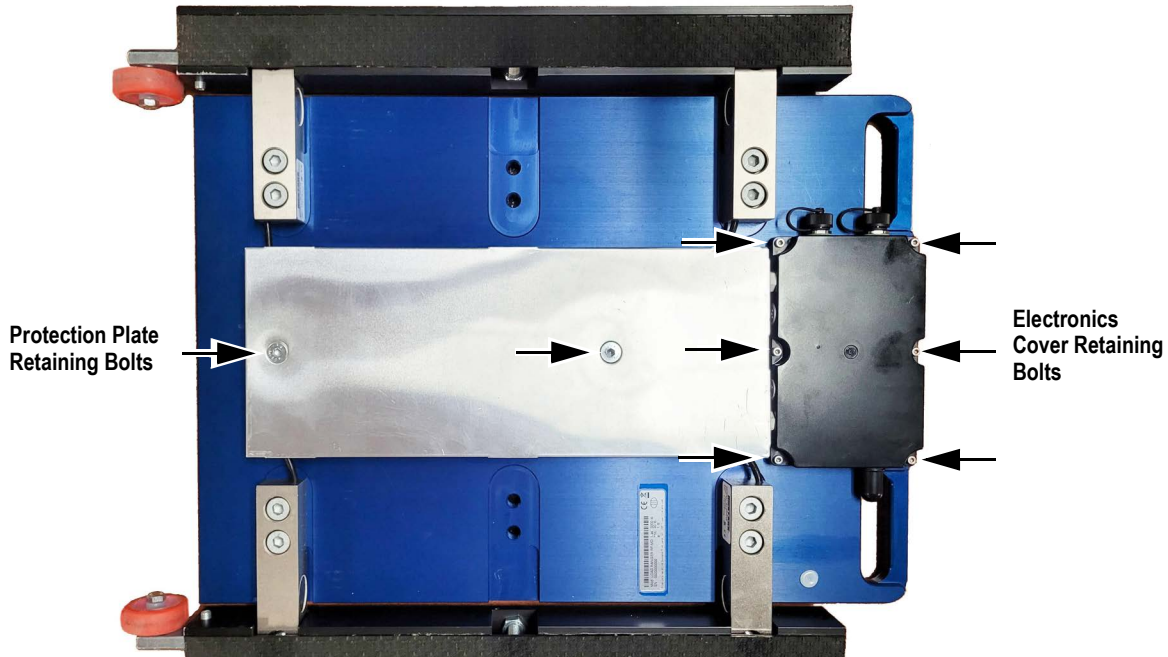

Figure 7-5. Protection Plate and Electronics Cover Retaining Bolts
18. Reinstall wheel weigh pad's electronics cover and protection plate with previously removed hardware (Figure 7-5 on page 55).